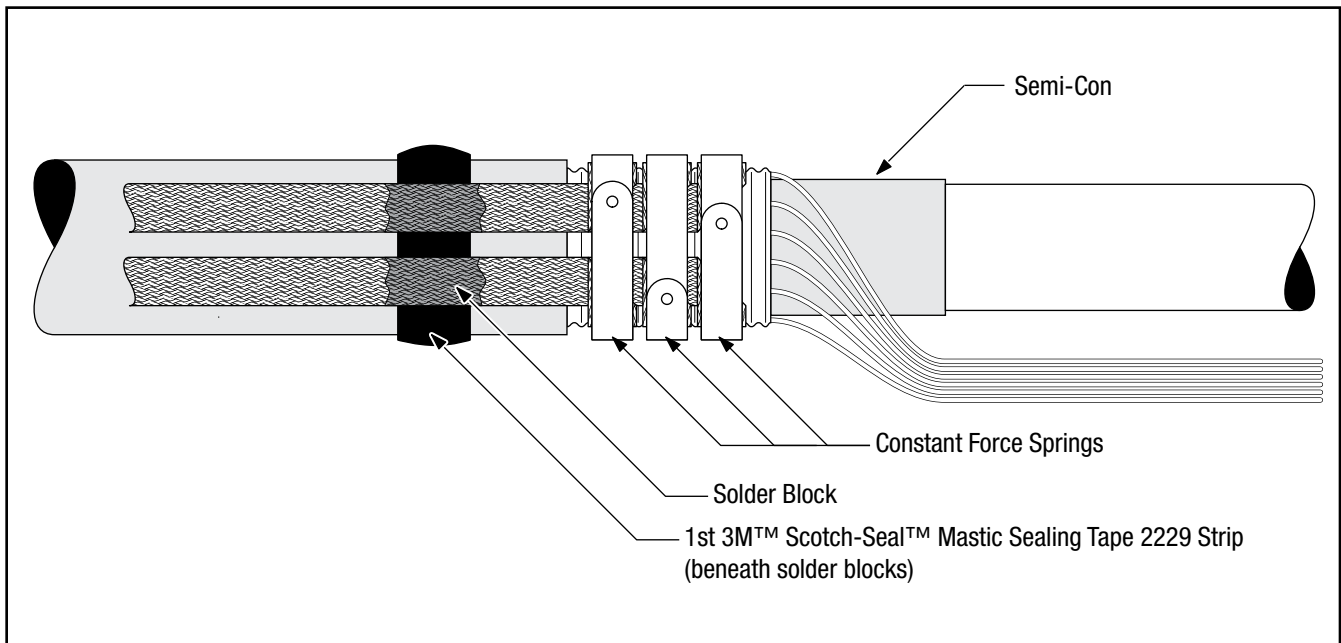

Figure 5
- 2.4 Select the roll of 1" (25 mm) wide 3M™ Scotch-Seal™ Mastic Sealing Tape 2229 from the kit. Cut a length of the tape long enough to wrap around the cable jacket. Remove the release liner from the mastic and, using light tension, apply a **SINGLE WRAP** of mastic around the cable jacket, positioned under the ground braid solder blocks. (*Figure 5*)